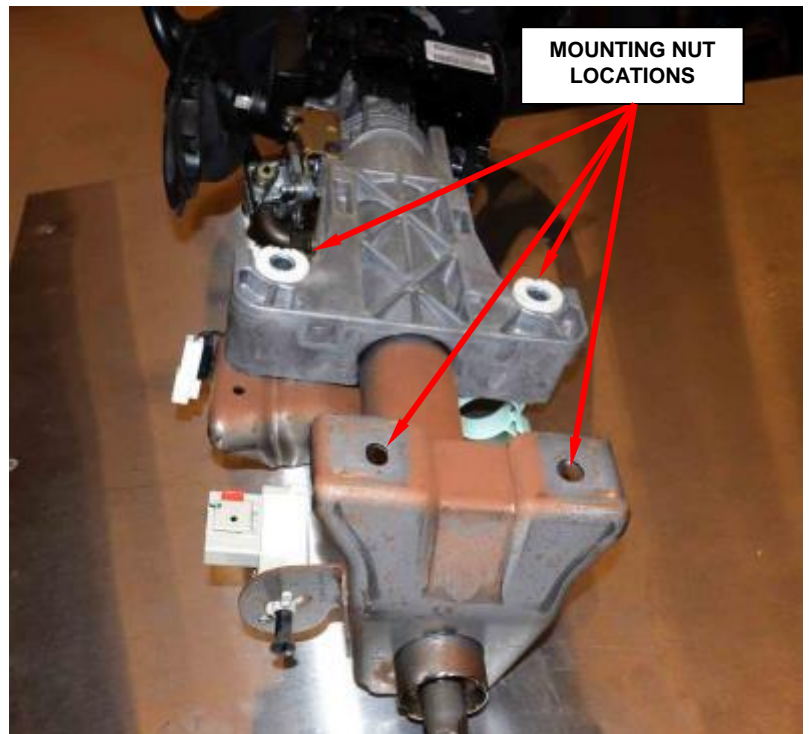

Figure 82 - Steering Column Mounting (Column Removed for Photographic Purposes)
16. Remove the four steering column mounting nuts (Figures 82 and 83).